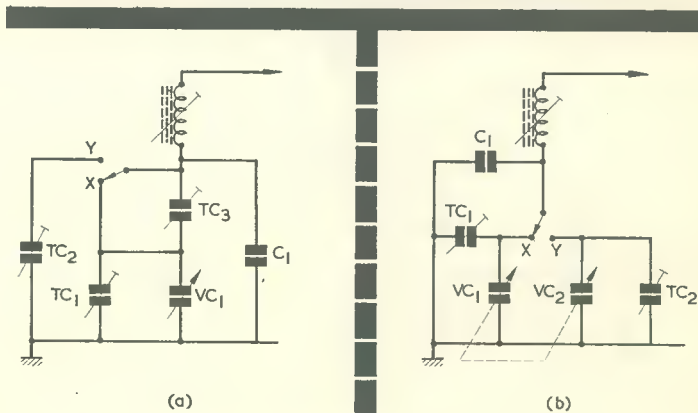

Fig. 5. V.F.O. tuned circuits with switched coverage
The power supply for this receiver is given by the power pack described in the December 1966 issue of this magazine and the writer has been informed that back numbers of that issue are still available for those who have not seen a copy. However, for those who wish to incorporate a power supply on the same chassis as the receiver, a suitable circuit is shown in Fig. 5. With the prototype the power supply is, of course, a separate unit, the writer favouring this method for the reasons that it considerably assists with the reduction of mains hum and that the separate power supply may be used for other items of equipment if so desired. The power supply featured in the December 1966 issue is fitted with a voltmeter and a milliammeter and this may not be required by all beginners—hence the circuit shown here. Any power supply, provided it is fully isolated from the mains by a mains transformer, and incor-
Fig. 5 shows two ways of altering v.f.o. range. Each employs a 2-way switch. In Fig. 5 (a), with the switch
The circuit in Fig. 5 (b) employs a 2-gang capacitor, and gives very
* In Fig. 5 (a) the values of TC_2 and TC_3 depend upon the values of TC_1 , VC_1 and C_1 , and may be found experimentally. In Fig. 5 (b), TC_2 should have a maximum value equal to or greater than TC_1 plus two-thirds of VC_1 . Initially adjust TC_2 so that VC_2 , without vanes removed, tunes to 3.6 Mc/s near the minimum capacitance end of its range. Then remove vanes to achieve the 3.5–3.6 Mc/s range required. This approach obviates the risk of removing too many vanes from VC_2 .—EDITOR.